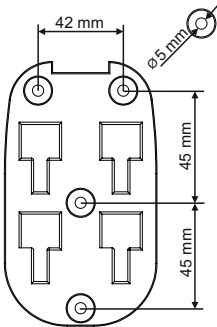

figure 1
Use the wall mounting part (1) to mark the fixing points on the wall. Take into account the dimensions between holes and the diameters marked in figure 1.
Use the wall mounting part (1) to mark the fixing points on the wall. Take into account the dimensions between holes and the diameters marked in figure 1. Drill wall and insert wall fixings. Screw wall mounting part to wall. Ensure that suitable screws and wall fixings are used. If in any doubt contact a suitably qualified expert.